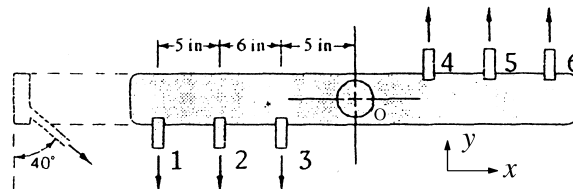

Fig. P3.124
**3.124** A rotating dishwasher arm delivers at 60°C to six nozzles, as in Fig. P3.124. The total flow rate is 3.0 gal/min. Each nozzle has a diameter of  $\frac{3}{16}$  in. If the nozzle flows are equal and friction is neglected, estimate the steady rotation rate of the arm, in r/min.